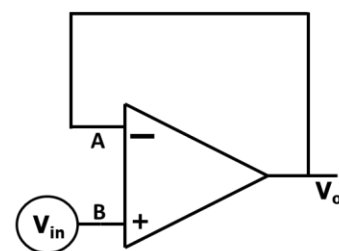

Fig 5.32 VOLTAGE FOLLOWER
5.6.1 Voltage Follower application: (Refer fig 5.32)